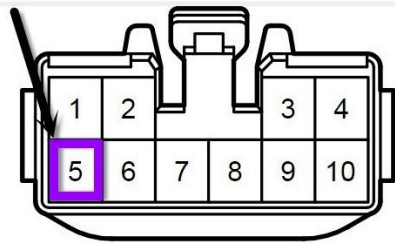

Figure 3-l
17. Attach the Red T-tap to the Pin 5, Violet wire connector j50. Use pliers to ensure the T-tap is snapped in completely. (Fig. 3-l & 3-m)